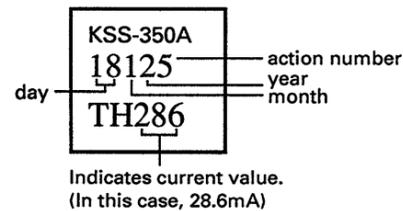

**Fig. 1 Method to push the S811**
2. Push the S811 as shown in Fig. 1.